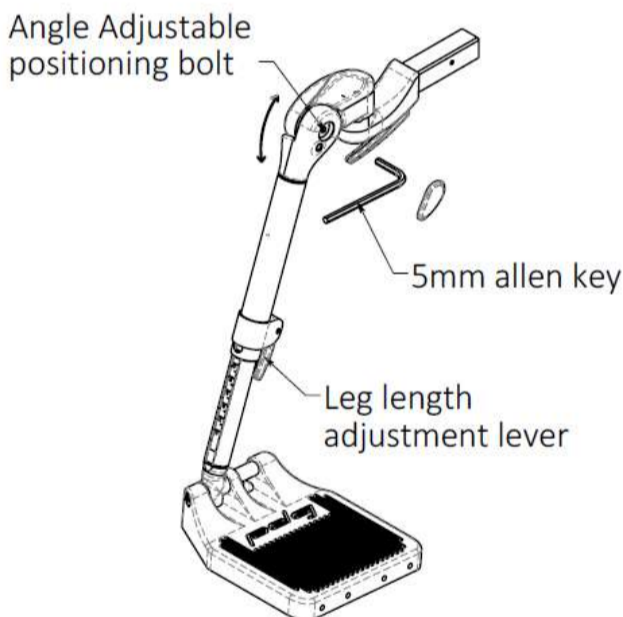

Figure 14.15: Easy-Out Angle Adjustable Front Rigging
1. Release the leg length adjustment lever. This is shown in Figure 14.15.